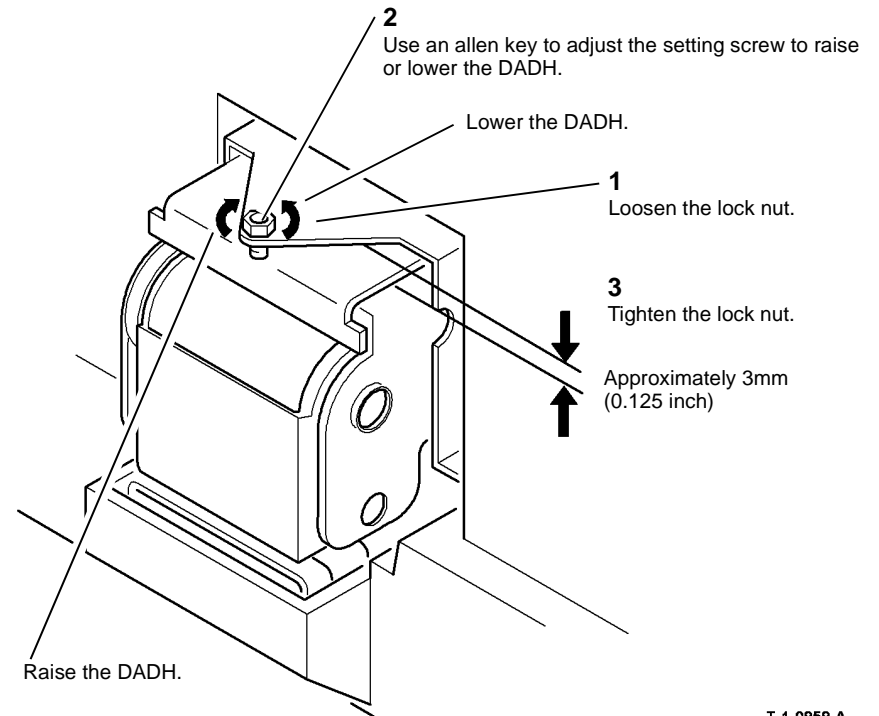

Figure 3 Counterbalances
NOTE: The factory setting of the counterbalances is approximately 3mm (0.125 inch), refer to Figure 3. The same adjustment applies to the left counterbalance and right counterbalance. Adjust the two counterbalances.
1. If the height of the DADH is wrong, adjust the counterbalances, Figure 3.